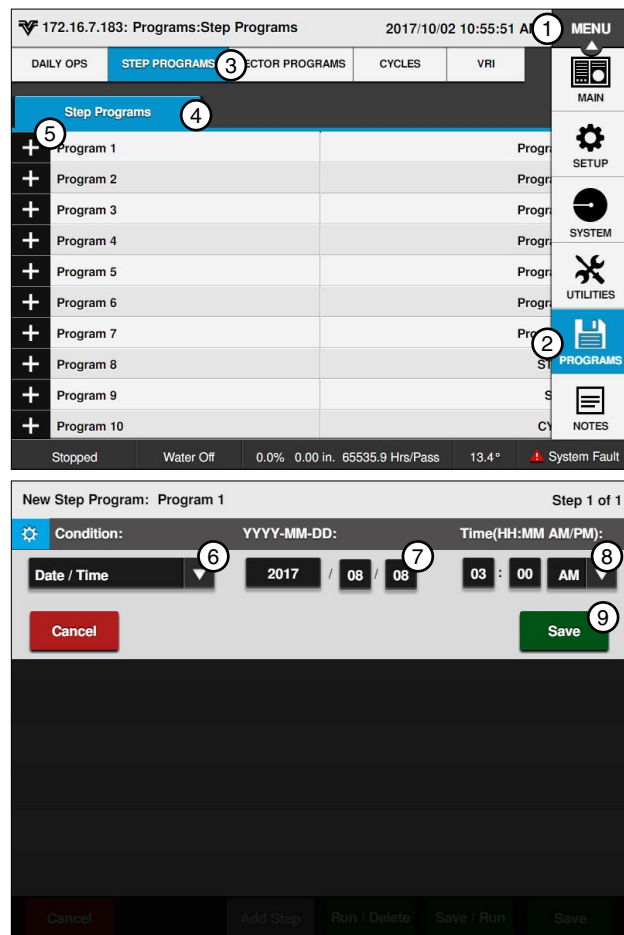

Figure 104-2 1. Menu 6. Date/Time
2. Push the **New Program** button corresponding to the preferred program number as shown in Figure 104-2.
- a) Select the **Choose Condition** drop-down menu and choose **Date/Time**. Refer to Figure 104-2.